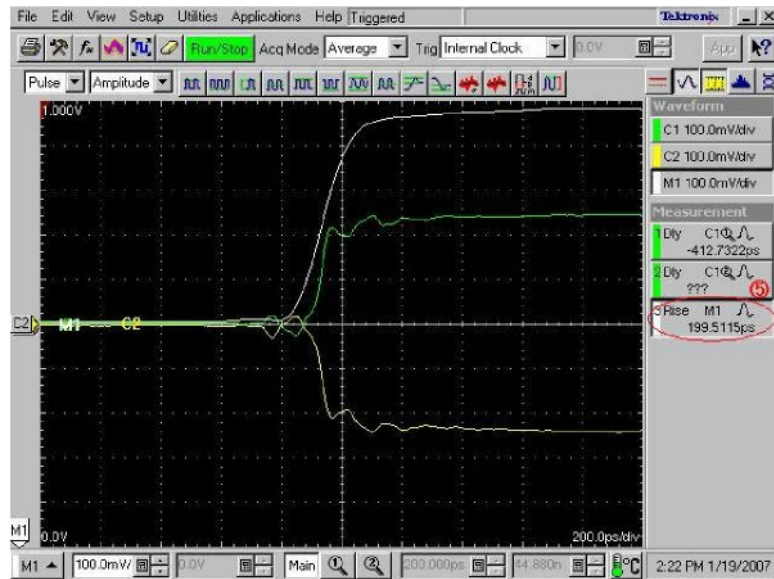
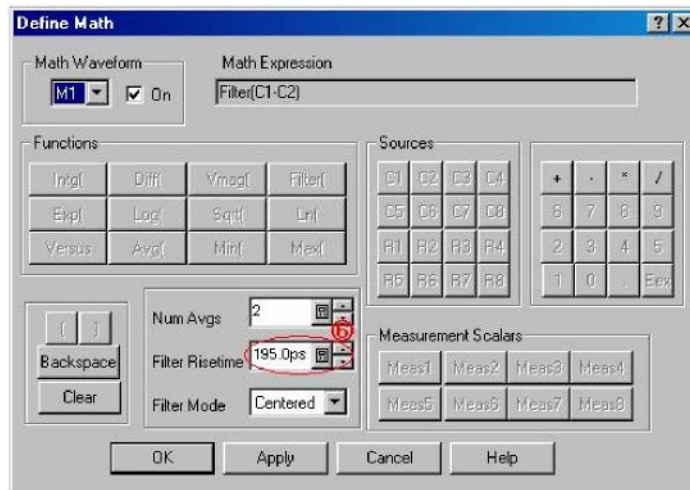

Figure 7: Adjusting the rise time
Figure 8: Changing the Filter Risetime value
- For **Differential mode**, adjust the rise time so that the reading of ⑤ in Figure 7 is 200 ps by changing the **Filter Risetime** value (see ⑥ in Figure 8). If you cannot adjust the value to 200 ps exactly, set it to the nearest value below 200 ps.
- For **Common mode**, adjust the rise time so that the reading of ⑤ in Figure 7 is 600 ps by changing the **Filter Risetime** value (see ⑥ in Figure 8). If you cannot adjust the value to 600 ps exactly, set it to the nearest value below 600 ps.
1. From the TDR menu, set the pulse in diff mode using the 200ps rise time filter setup as shown in Figure 7.